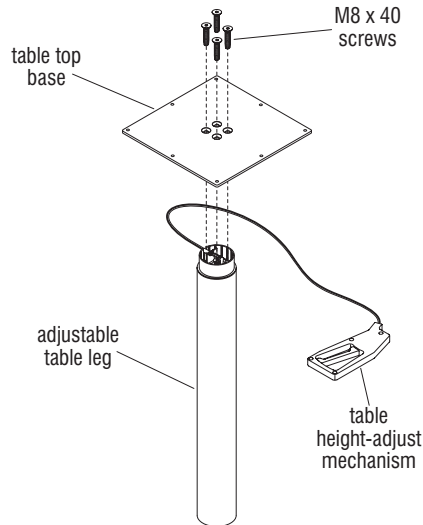

Figure 1
2. Orient the adjustable table leg with the control cable exiting the top of the tube. Secure the table top base to the upright tube using four M8 x 40 screws as illustrated (Figure 1).